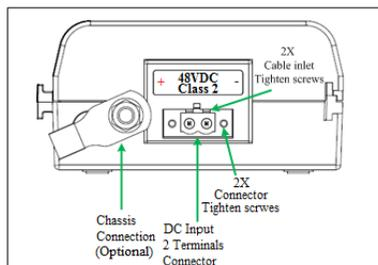

Figure 2: PoE Midspan Power Connector
- The power connector supplied with the PoE Midspan (included in the package) has 2 terminals; '+' (POS) and '-' (NEG) (See Figure 2).
- After inserting a cable inlet to the connector terminals, tightly fasten all 4 connector screws (See Figure 2).
- Tighten the 2 connector screws (see Figure 2).
- Connect the PoE Midspan PWR connector to stranded tinned copper cables, 16 AWG for each terminal (rated for 2 Amperes), and tighten the 2 Cable inlet screws (See Figure 2).